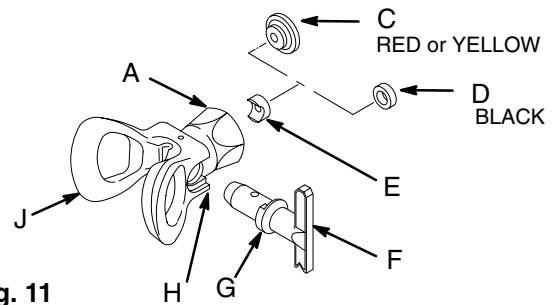
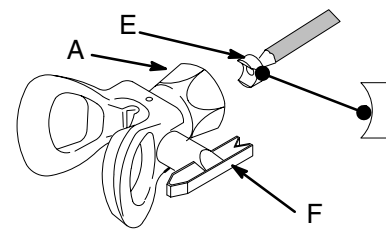

Fig. 11 0091
Fig. 12 0092
Relieve pressure. Install a tip (F) so the flange (G) on the cylinder fits into the slots (H) at the base of the spray tip guard (J). See Fig. 11.
Place the seat (E) on a pencil, curved side out, as shown in Fig. 12. Guide the seat into the retaining nut (A) and turn the seat until it straddles the cylinder of the spray tip (F). Drop in the appropriate gasket and press it down. If using the red or yellow gasket (C), be sure the flat side faces out of the retainer (A). See Fig. 11.
Be sure the spray tip handle is in the FULL SPRAY position before operating the gun. See Fig. 11.